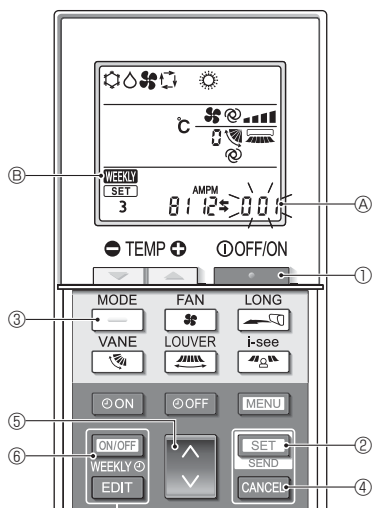

Fig. 5-12
5.12.8. How to disable Auto mode operation (Fig. 5-12)
1. Press the **STOP** button ① to stop the air conditioner.
- If the weekly timer is enabled, press the **ON/OFF WEEKLY** button ⑨ to disable the timer. (**WEEKLY** ⑨ disappears.)
2. Press the **SET** button ② for 5 seconds.
- The unit enters the function setting mode. (The group model setting number ④ blinks.)
3. Press the **DOWN** button ⑤.
4. Completing the settings (Fig. 5-12)
- Press the **SET** button ② for 5 seconds.